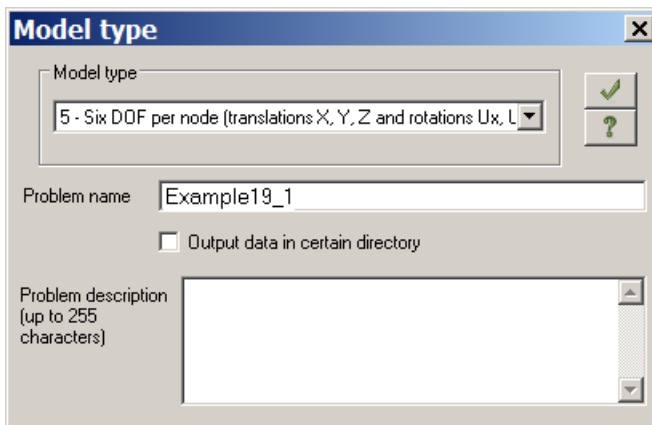

Figure 19.7 **Model type** dialog box
- ⇒ In the **Model type** dialog box (see Figure 19.7) specify the following data: